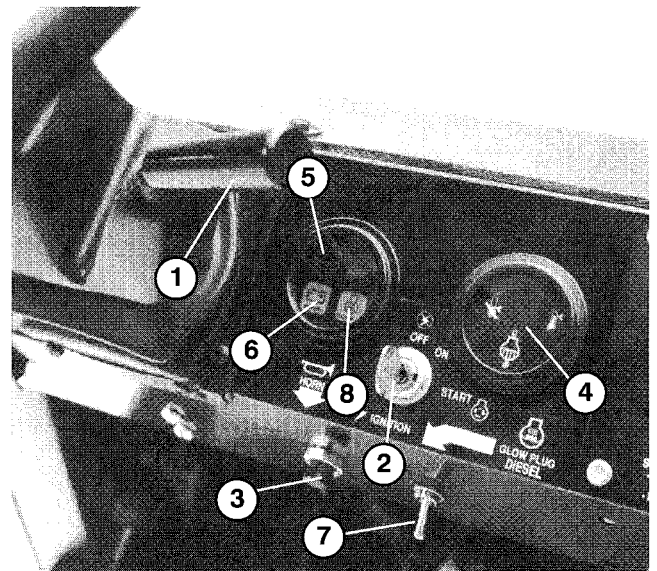

Figure 21
Tilt Steering Lever (Fig. 21) – Lever on right side of console allows steering wheel to be adjusted for operator comfort.
Coolant Temperature Gauge (Fig. 21) – Registers coolant temperature in engine. Operates only when ignition switch is in On position.
Horn Button (Fig. 21) – Pressing button activates horn.
Engine Low Oil Pressure Light (Fig. 21) – Light glows if engine oil pressure drops below a safe level while engine is running. If light flickers or remains ON, stop vehicle, turn off engine and check oil level. If oil level was low, but adding oil does not cause light to go out when engine is restarted, turn engine off immediately and contact your local TORO distributor for assistance.
Glow Plug Switch and Indicator (Fig. 21) — Use to preheat engine cylinders prior to cold engine starting procedures — cylinders are preheated automatically during warm engine start operation. For cold starting, push switch lever upward and hold while watching indicator. Indicator will glow orange when the glow plugs are activated. Length of time necessary to preheat cylinders should be determined by atmospheric temperature; refer to Starting /Stopping Engine.
Ignition Switch (Fig. 21) —The ignition switch, used to start and stop the engine, has three positions: OFF, ON / Preheat and START. Rotate key clockwise — START position — to engage starter motor. Release key when engine starts. The key will move automatically to the ON position. To shut engine off, rotate key counterclockwise to OFF position.
Charge Indicator (Fig. 21) — Illuminates when battery is being discharged. If light illuminates during operation, stop vehicle, turn Off engine and check for possible causes, such as alternator belt.
5. When temperature is below 15°C (60°F), push glow plug switch upward to ON position (Fig. 21) and hold for suggested interval.